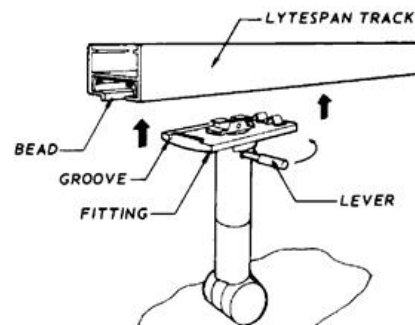

FIG. 1
1. Align BEAD on LYTESPAN TRACK and GROOVE in FITTING before inserting into LYTESPAN TRACK. See Fig. 1. (If BEAD is NOT aligned, a potential hazard may result.)
2. Position LEVER as shown in Fig. 1.